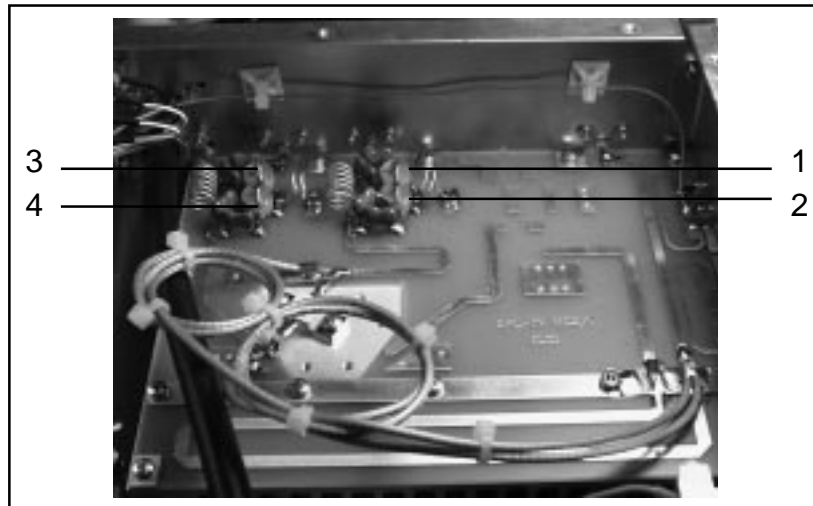

Figure 4
- 6) Adjust the variable capacitors (1) and (2) (Figure 4) related to the amplifier "A" (see the silk-graph on the rear panel of the coupler for reference), to maximize the forward power measured in the coupler